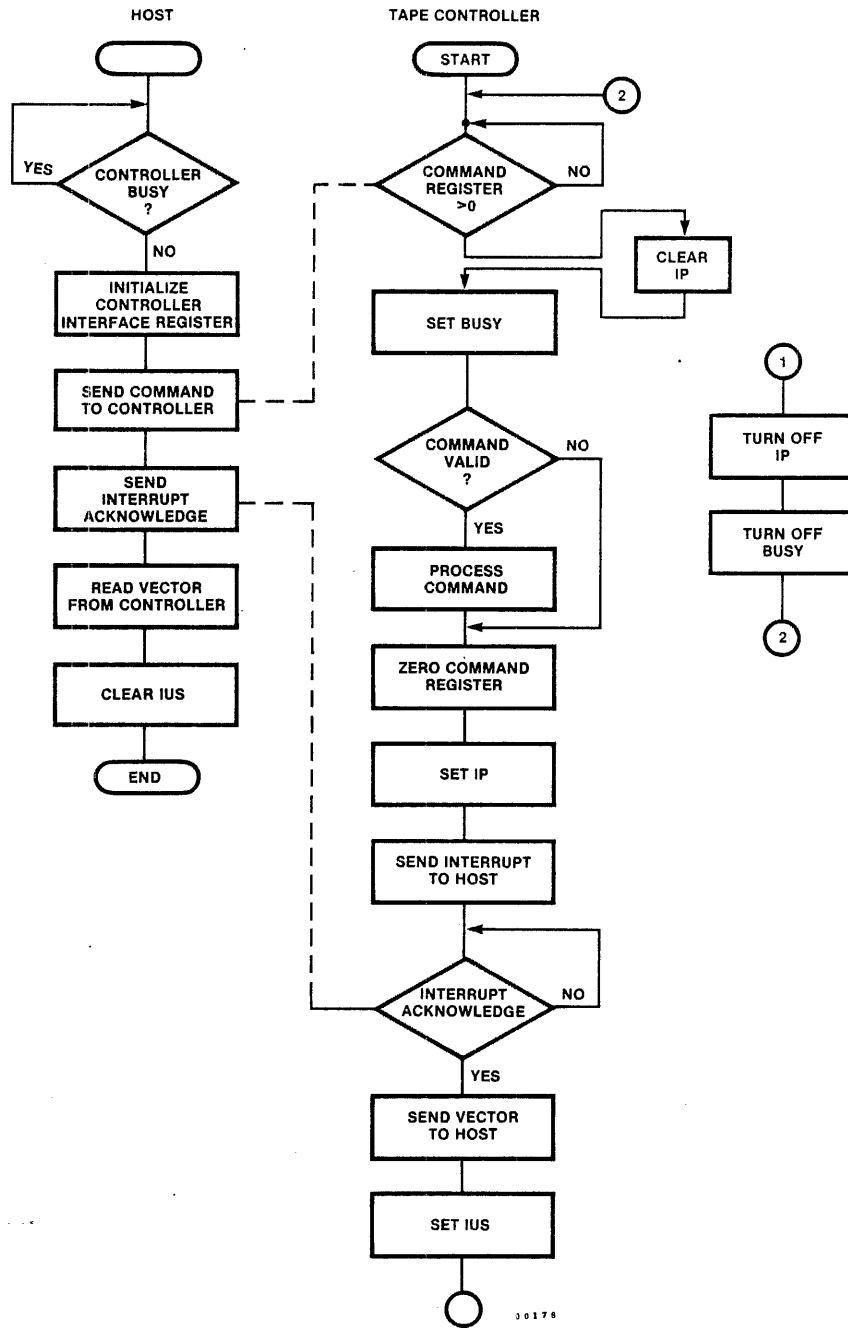

Figure 4-9 Cartridge Tape Controller, Command Processing
4.5.5. Tape Controller Operation: To start a tape operation, the host CPU reads the high-order byte of the controller's interrupt vector to see if BUSY is set. If the busy bit is set, the controller is still executing the last command. If the controller is not busy, the host initializes the interface registers and then writes a non-zero command in the controller's command register. The flowchart in Figure 4-9 shows the steps taken by the host.